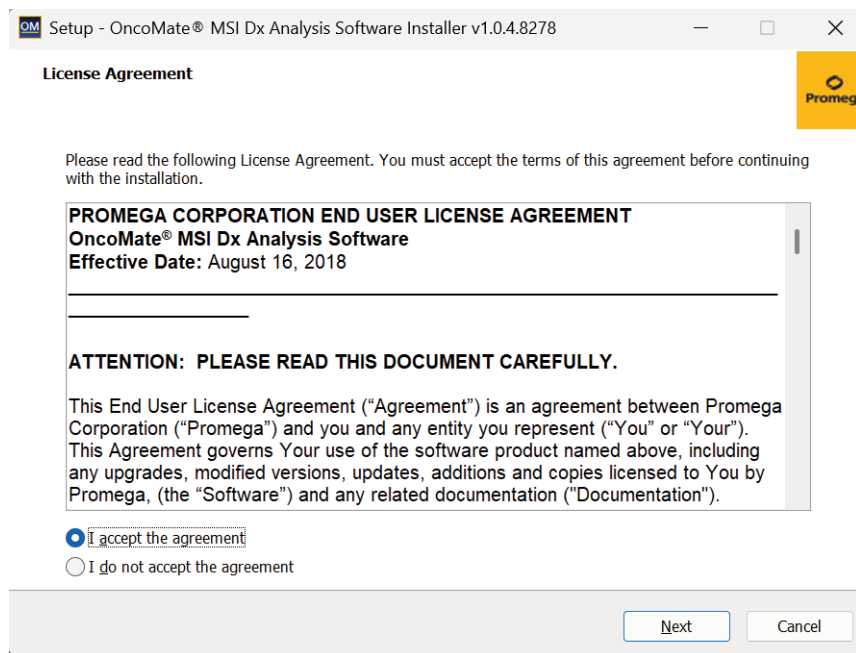

Figure 3. Reading the end-user license agreement.
3. Read the end user license agreement (See Figure 3). Select "I accept the agreement" and **Next** to continue with software installation or **Cancel** to cancel the software installation. If you chose "I do not accept the agreement", select **Cancel** to exit the installer.